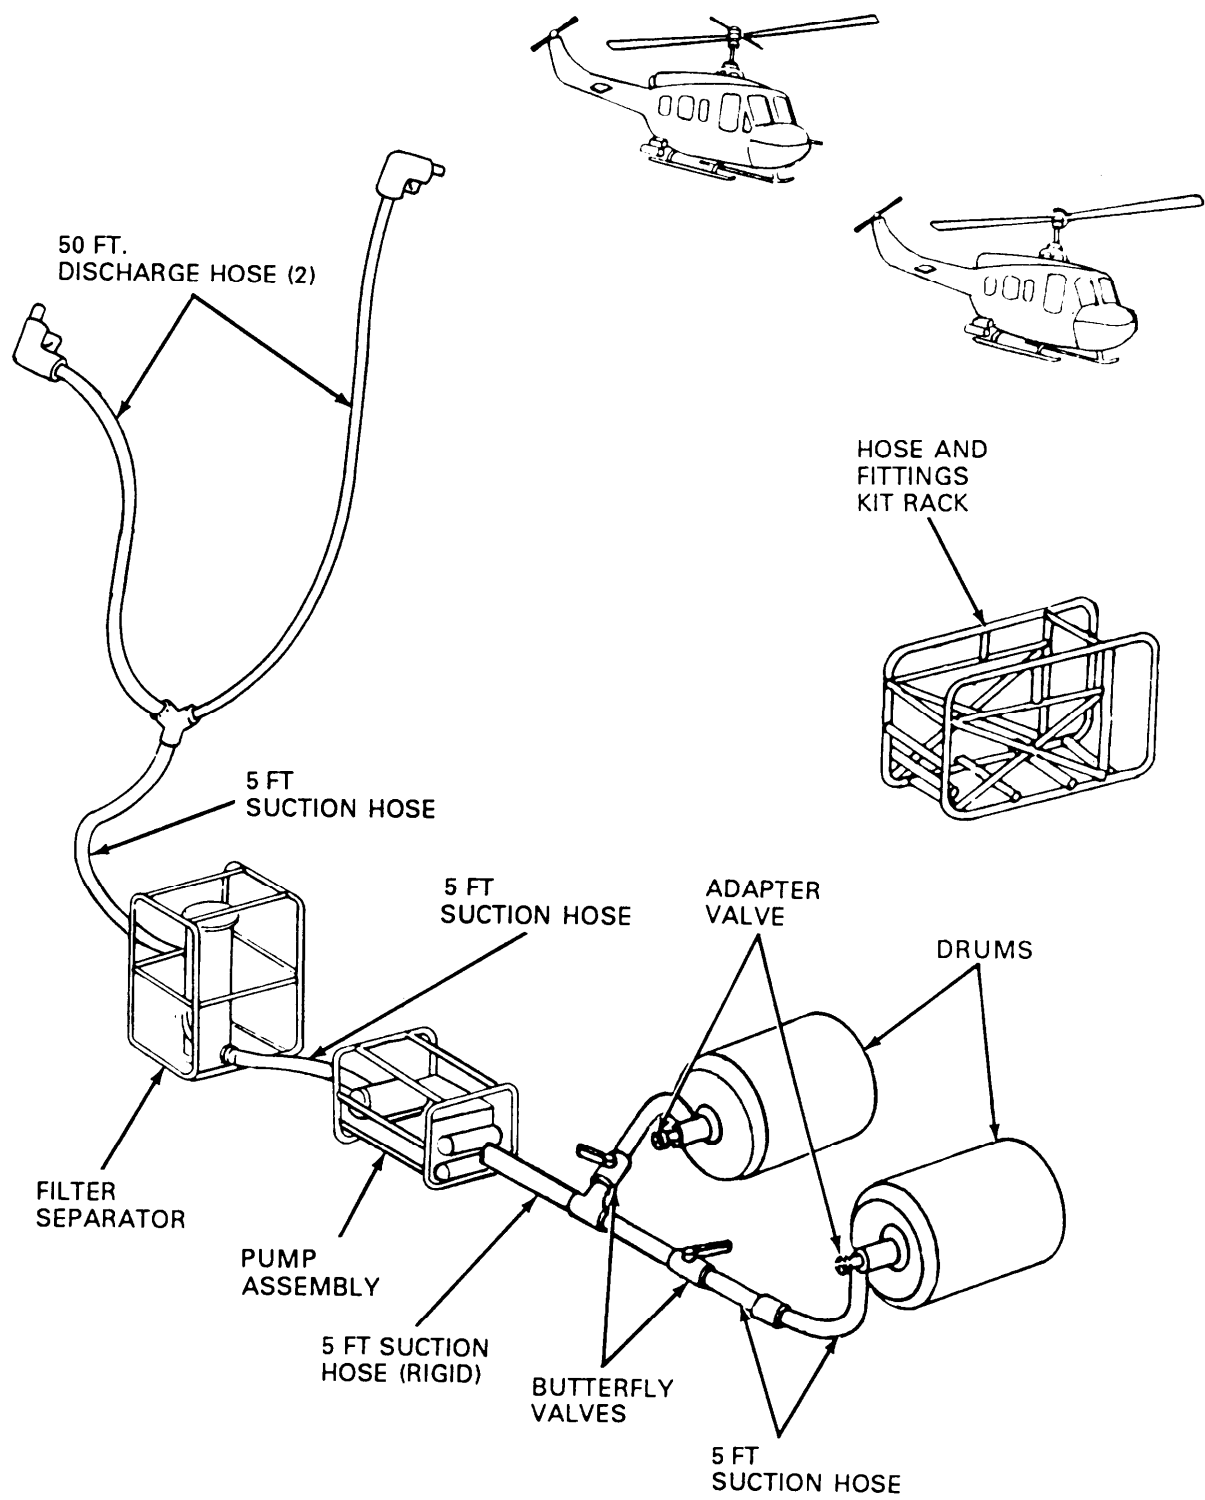
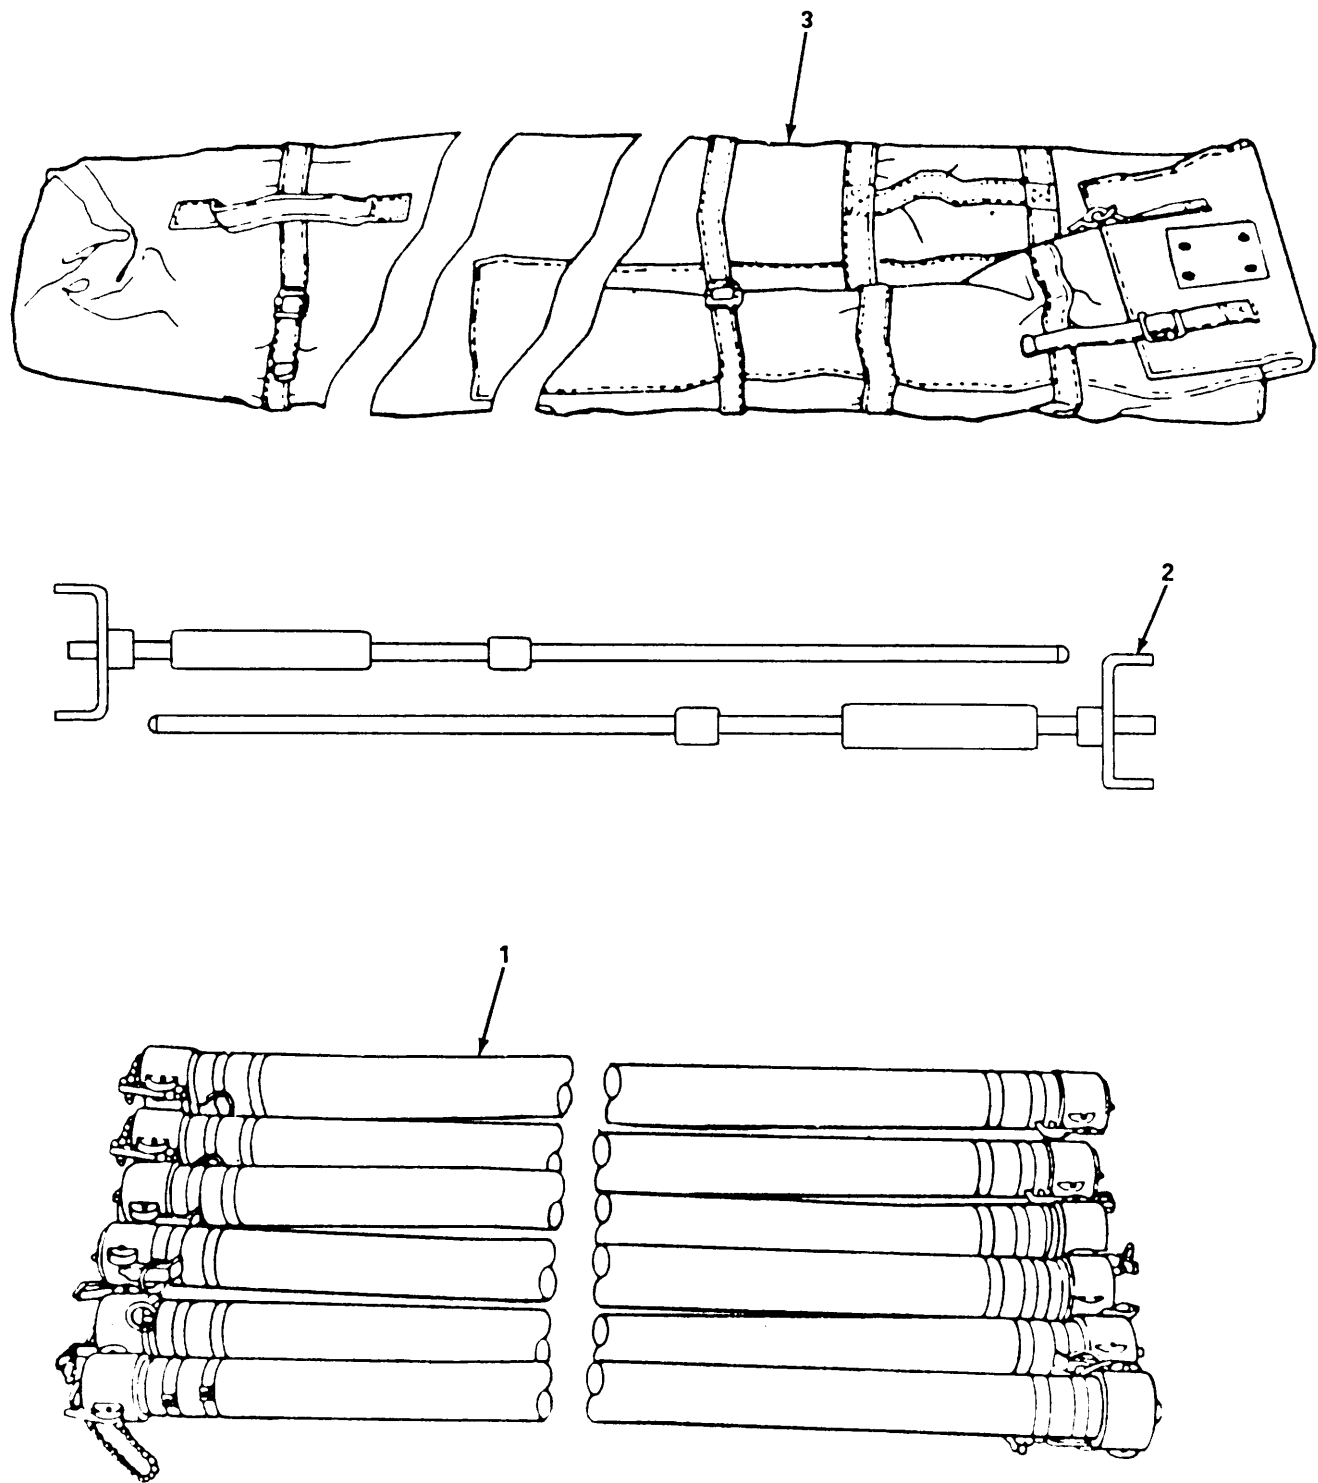
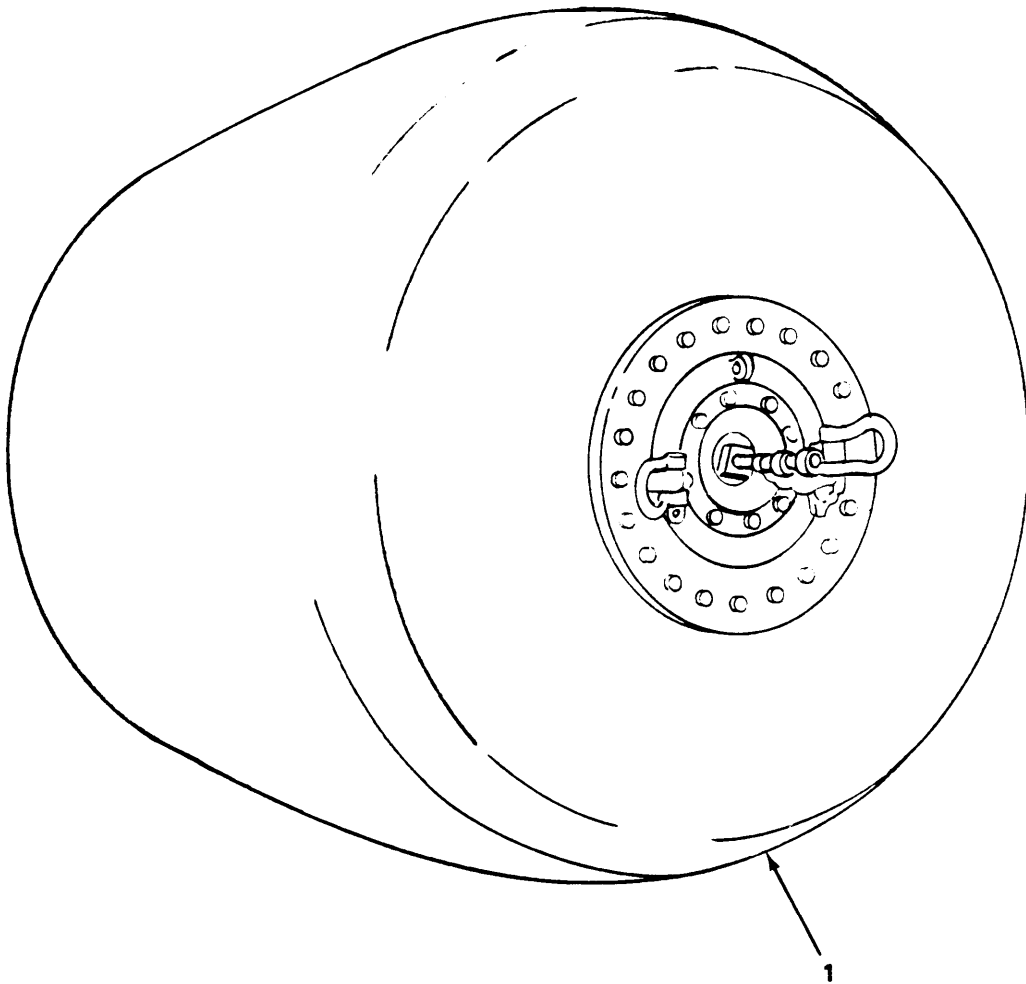

Figure 1-1. Typical Layout of FARE.
Figure 1-5. Suction Hose Kit.
Figure 1-6. Collapsible Drum.
b. Equipment Name. Forward Area Refueling Equipment, hereinafter referred to as FARE (figure 1-1)
a. Characteristic FARE (figure 1-1) consists of simple, lightweight refueling equipment that can be transported by fixed-wing and rotary wing utility and cargo aircraft. This equipment includes a pump/engine assembly (figure 1-2), a filter/separator assembly (figure 1-3), discharge hoses, fittings and frame assembly (figure 1-4) a suction hose kit (figure 1-5) and a collapsible fabric fuel drum (figure 1-6). (The drum is procured separately.) Each assembly is contained within a tubular aluminum framework and can be handled by two persons.
(1) Primarily, the equipment is used to transfer fuel from 500-gallon (1892.5 liter) collapsible drums to helicopters in forward combat areas.
(2) Refueling fixed-wing aircraft and ground vehicles is a secondary function.
(3) The equipment is provided with two types of nozzles, a closed circuit nozzle and a gravity fill adapter nozzle, that will permit the operator to service aircraft or ground vehicles having either a gravity-feed or closed-circuit fuel system capability.
(4) A 4 in. x 2 in. (10.16 cm x 5.08 cm) adapter and a 3 in. x 2 in. (7.62 cm x 5.08 cm) adapter are included to allow acceptance of fuel from other sources.
(2) *Suction hose kit* (figure 1-5). There are two kits, each consisting of the following items:
(3) *Collapsible drum* (figure 1-6). Refer to TM 10-8110-201-14&P for pertinent information on the collapsible drum. The collapsible drum (1) is issued separately and is not part of the FARE.